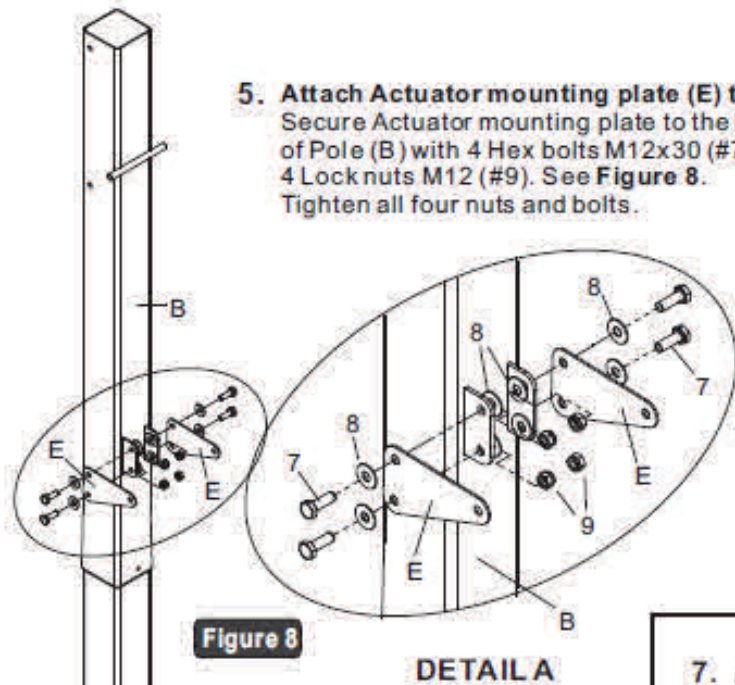

Figure 8
Secure Actuator mounting plate to the bracket welded on backside of Pole (B) with 4 Hex bolts M12x30 (#7), 8 Flat washers M12 (#8), 4 Lock nuts M12 (#9). See Figure 8. Tighten all four nuts and bolts.
**8. Attach Actuator (C) to Lower extension Arm (F).**
Slide Actuator plastic sleeve (D) over top of Actuator (C), align the hole in the Plastic sleeve with the hole in the Actuator, slide one Steel Sleeve (#5) thru both parts, see Figure 8. Hold the Actuator assembly, align Steel Sleeve with the Rear hole of Lower extension Arm (F), Attached them together with one Hex bolt M12x205 (#3), two Flat washers M12 (#8), Two Nylon washers (#1) and one Lock nut M12 (#9). Do not over tighten the bolts.